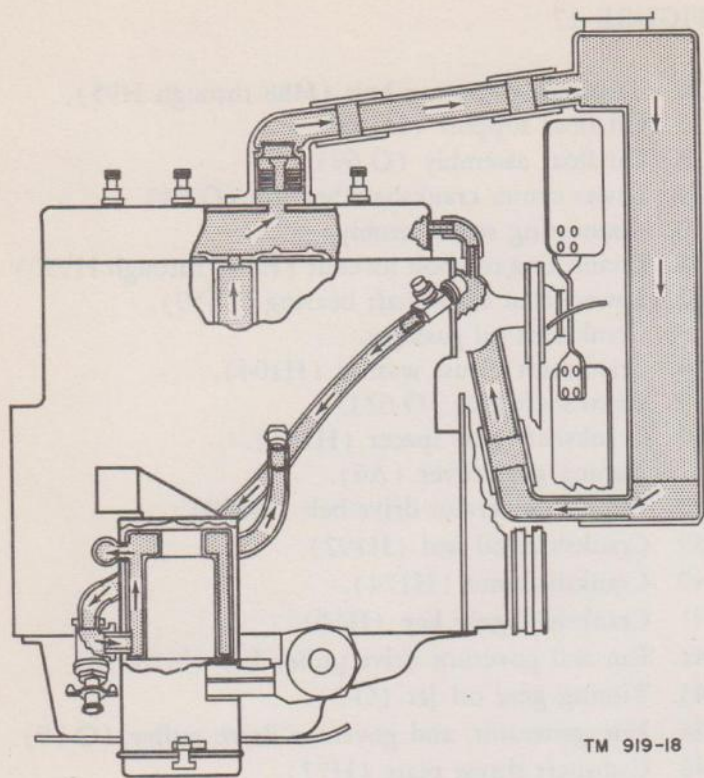

Figure 18. Cooling system flow diagram.
e. COOLING SYSTEM (fig. 18). The engine coolant is circulated upward through the jacketed passages around the cylinders, valve ports, and combustion chambers. It then flows from the cylinder head through the top of the radiator, downward through the radiator, where it is cooled by the air blast of the fan. The coolant is then pumped back into and through the cylinder block. The system maintains the temperature of the coolant (measured at the engine outlet elbow) at least 10° F below the boiling point for water at the system pressure when operating under full load in ambient temperature up to 125° F. A 180° F thermostat allows the coolant to bypass through the radiator and circulate just within the engine until normal operating temperature has been attained. The high temperature cutoff switch mounted on the outlet elbow automatically opens the ignition circuit if the coolant temperature reaches the predetermined setting. The pressure in the system must exceed 4 pounds before the pressure cap will release vapor through the radiator overflow.